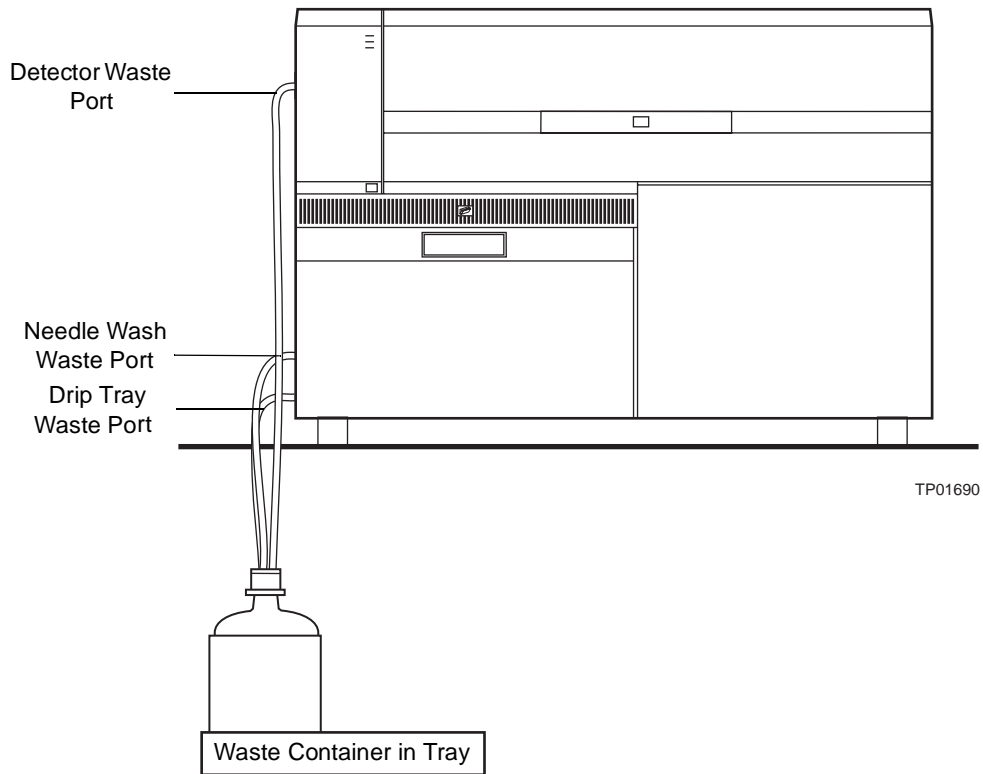

Figure 2-4 Installing the Waste Container
1. Place the waste container below the system, in a well-vented space (Figure 2-4).